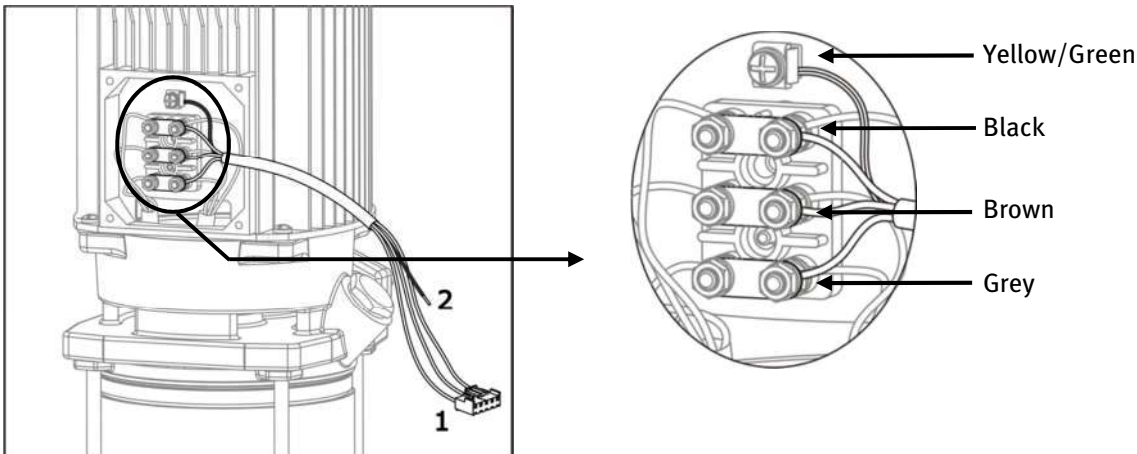

Figure 1
3.2.1) Speedrive with single-phase input (Figure 1):